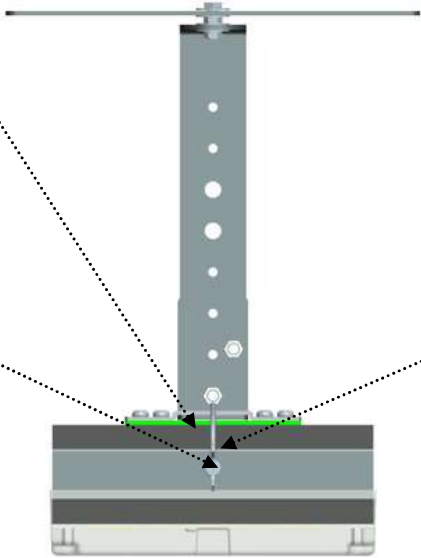

FIG. 12
3. There is a mounting port on the top of the LED head. Insert the port into the bracket then attach the metal cord (already with one end attached to the bracket) to the LED head. Using the provided butterfly screw, secure it to a screw hole on the side of the LED head. **Adjust the length of the metal cord to make sure it's tight this way the LED head is firmly locked with the bracket.** The butterfly screw can be used without tool (see FIG 12).